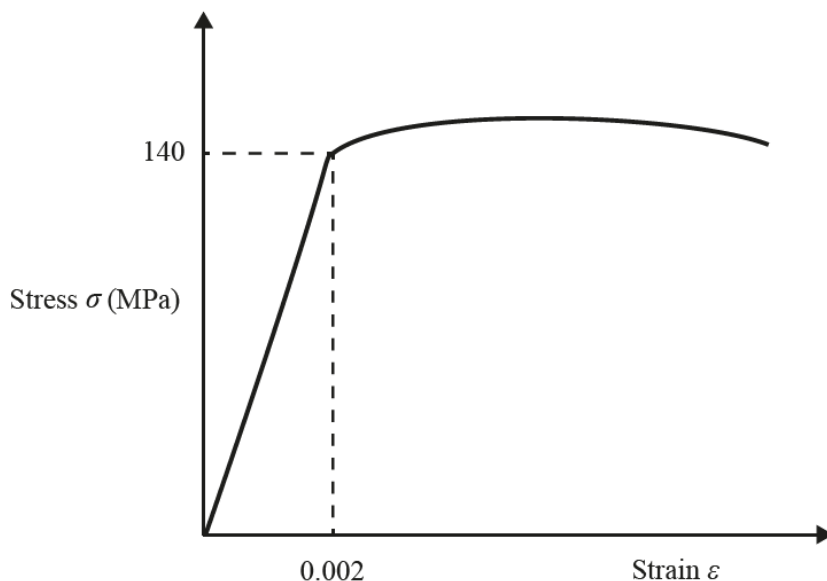

Fig. 7
4 (a) Fig. 7 shows the stress-strain curve of a metallic material.
(ii) Draw a cross (X) on Fig. 7 to show the ultimate tensile strength of the metallic material. [1]
- (iii) Metallic materials undergo two types of deformation, both of which are shown in Fig. 7.